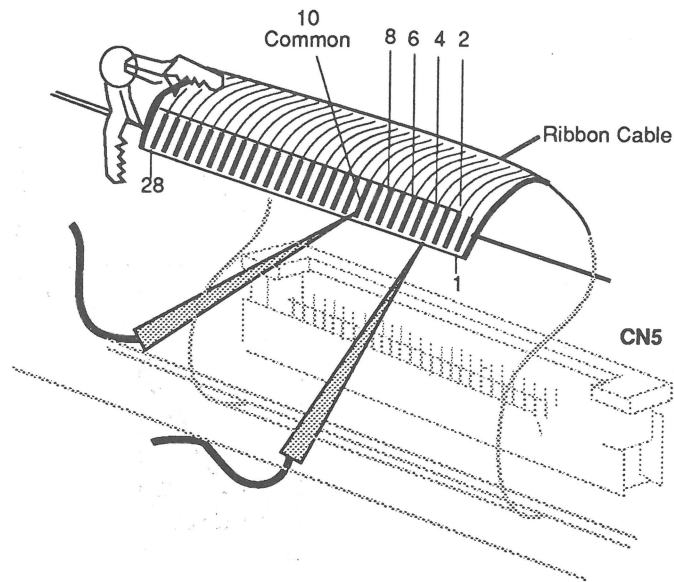

Figure 3-9
- c) As shown in **Figure 3-9**, put one probe on pin 10 (common) and measure the resistance on pins 2, 4, 6, and 8. The reading should be $120\Omega \pm 10\%$ on each pin. If the reading is different, then check both the motor and the cable.